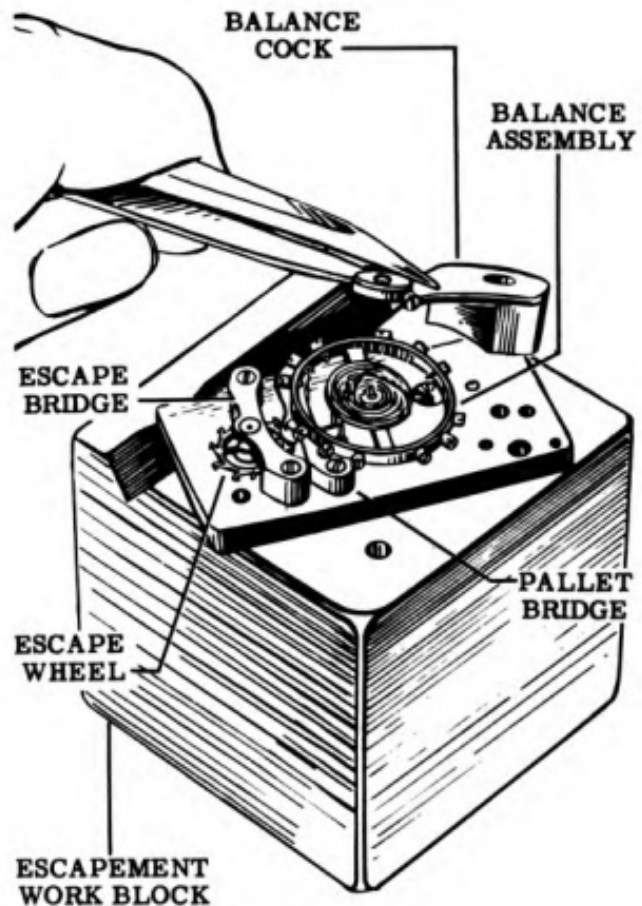
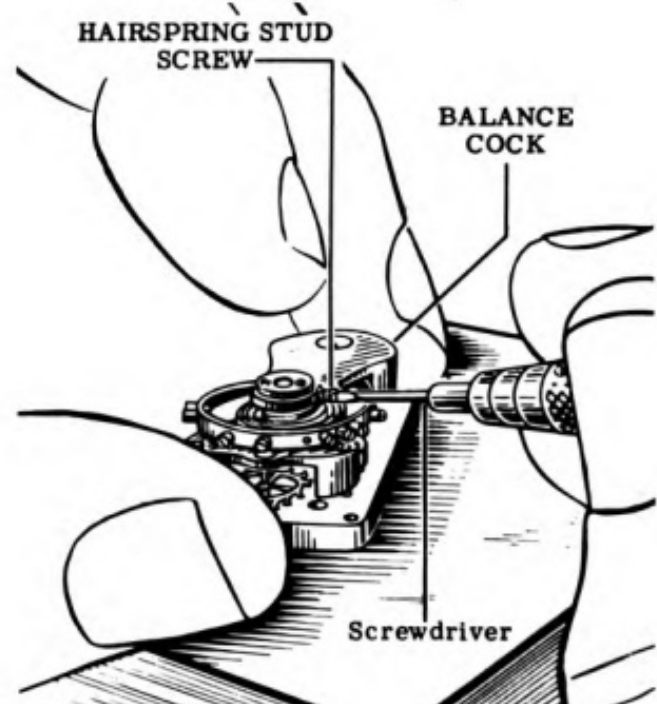

Figure 54
Figure 55
33. Put the balance in place and mount the balance cock with the balance cock screw. See Fig. 54. Place the hairspring stud into the notch in the balance cock. Fasten down the stud with the hairspring stud screw as shown in Fig. 55.